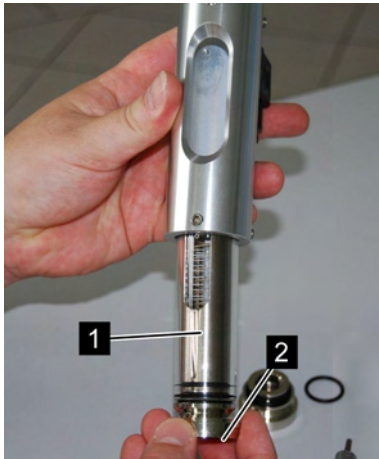

Fig. 38: Remove the inner section
5. Carefully remove the inner section (Fig. 38/1) of the device (sight glass, spring and float) as a unit together with the process connection (inlet) (Fig. 38/2) from the device housing